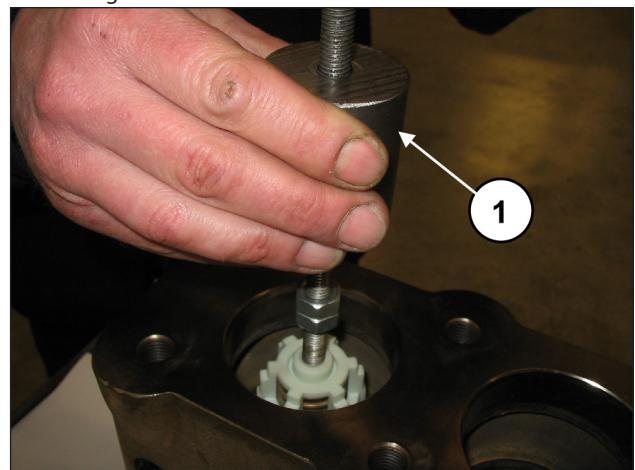

Fig. 110
Extract the outlet valve unit with the use of an extractor hammer (code 27516400) to be applied on the M10 hole of the valve guide (pos. ①, Fig. 110) or, in addition, an M10-M16 adapter (code 25089700) to be attached to the M16 thread of the valve guide.